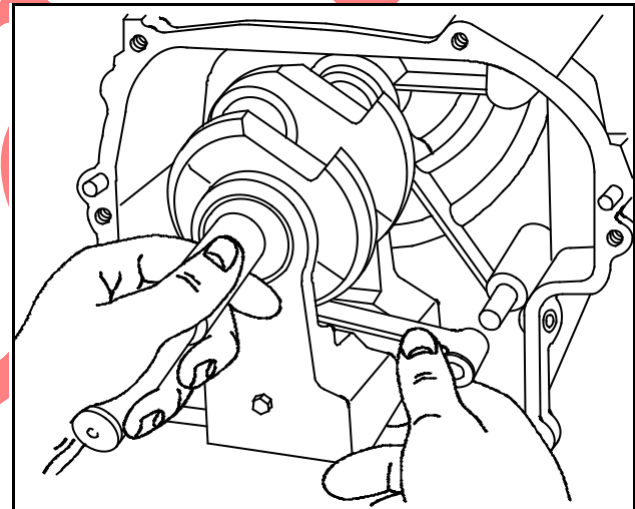

Fig. 192 - INSTALLING CRANKSHAFT AND COUNTERWEIGHT ASSEMBLY
10. Align link with crankcase link pin and push assembly into place, Fig. 192.